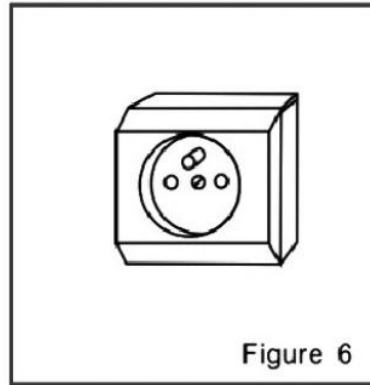

Figure 6
7. Power Supply Requirements (shown in Figure 6)